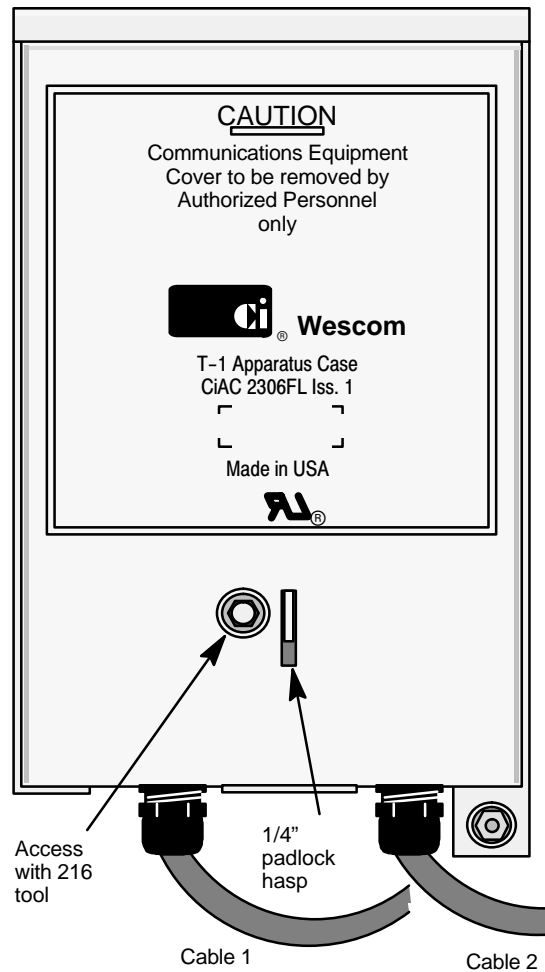
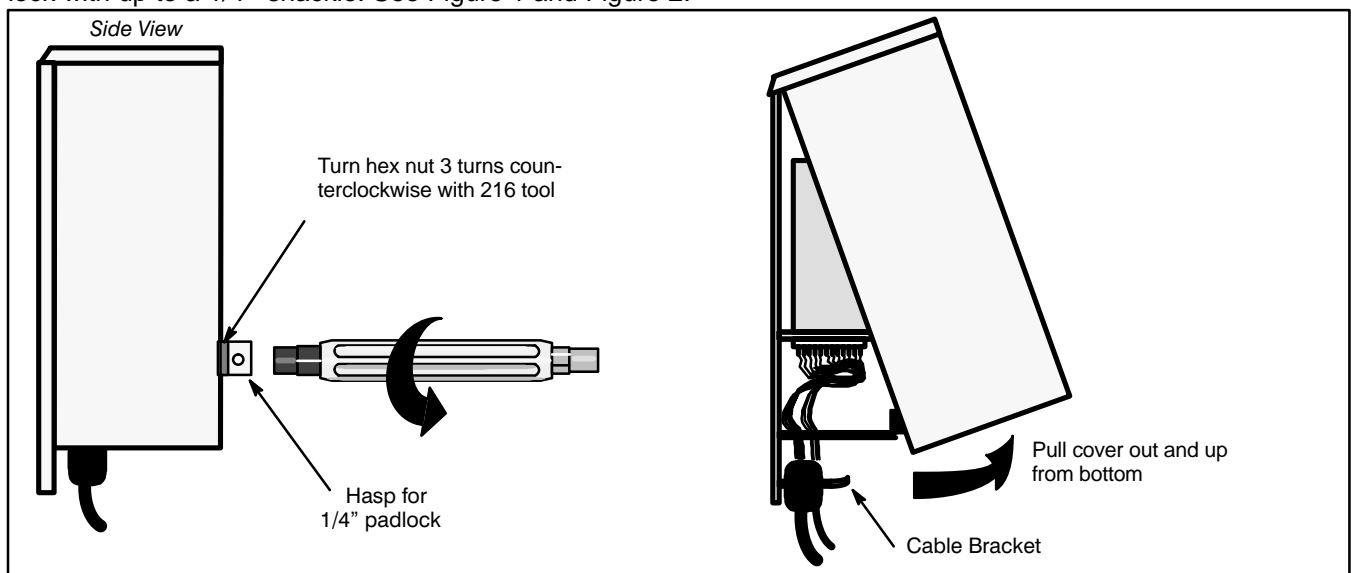

Figure 1. Front View, AC 2306-FL
Figure 2. Removing Front Cover
This document provides general and installation information for the Charles Industries AC 2306-FL Six-Slot T1 Apparatus Case, shown in Figure 1.
The AC 2306-FL Apparatus Case is designed for indoor mounting at or near the customer's premises, and as depicted in Figure 1, is equipped with two factory prewired cable stubs.
1.	Remove the cover. Using a standard 216 tool, turn the hex nut in the cup washer a minimum 3 turns (approximately 90°) counterclockwise. Grasp the bottom of the cover and pull out and up as shown in Figure 2.
To provide added security, the AC 2306-FL is equipped with a hasp on the front panel which can accept a padlock with up to a 1/4" shackle. See Figure 1 and Figure 2.